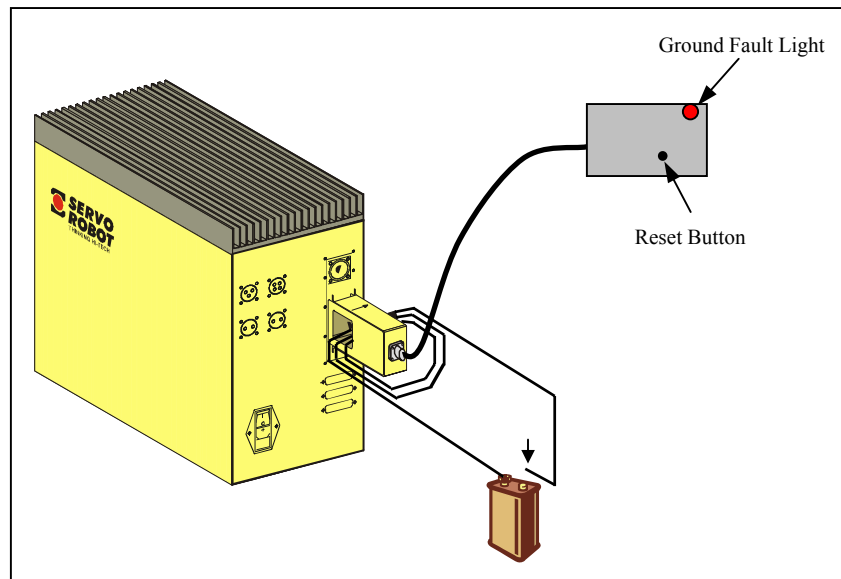

Figure 7. Testing the Ground Fault Detector
- Pass a 2-meter 16AWG or 18AWG wire (1.5mm² or 1mm²) three times through the ground fault detector. (See figure 7 below)